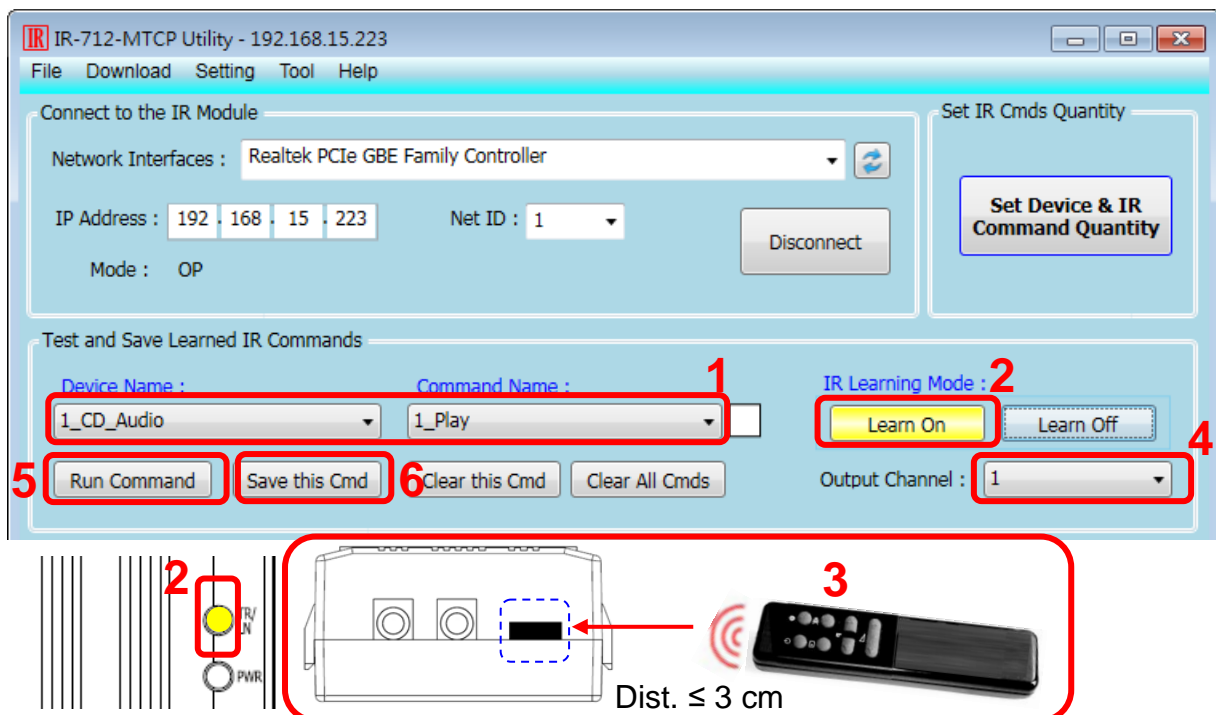

Figure 4-6 The steps to learn IR commands.
Follow the steps below and the illustration in figure 4-6 to learn and test IR commands:
- (1) Determine the IR command for learning by selecting the items in the “Device Name” and “Command Name” comboboxes.
- (2) Click the “Learn On” button to enable the IR learning mode on the IR-712-MTCP. At the same time, the TR/LN LED is turned on to show the Learn On state.
- (3) Aim the IR emitter head of the device’s remote control at the IR input of IR-712-MTCP. The distance less than 3 cm between the remote control and the IR-712-MTCP would be best. Then, press the button of the remote control which is to be learned. If the learning for the IR command is finished, the TR/LN LED will be turned off.
- (4) Select the IR output channel. For example in the figure 4-6, the IR output channel is 1.
- (5) Aim the head of the IR emitter cable plugged in the IR output 1 at the corresponding IR-controlled appliance. Click “Run Command” button to emit the IR command from the IR-712-MTCP. You can check if the learned IR command is OK by investigate the action of the appliance. If not, please repeat step 2 and step 3 again.
- (6) Click “Save this Cmd” button to save this IR learning command to the current item of the “Command Name” combobox, e.g. the item is “Play” in figure 4-6.
- (7) Repeat the above steps (1) ~ (6) to learn all the IR commands.